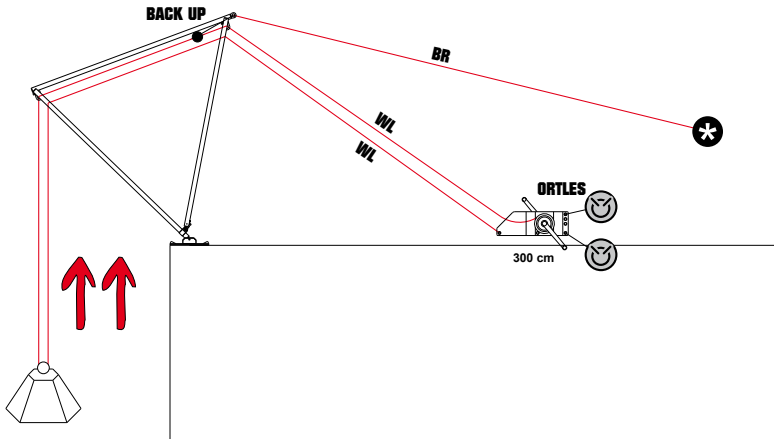
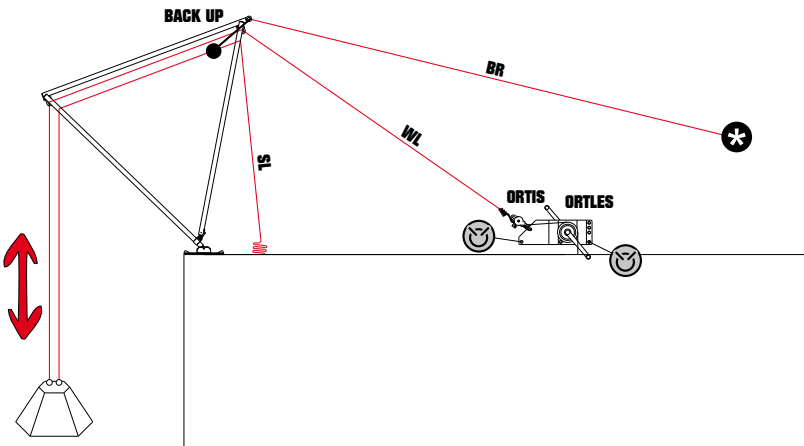

fig. 15
fig. 16
- lowering and recovery with a single rope (fig. 15) and double ropes (fig. 16),